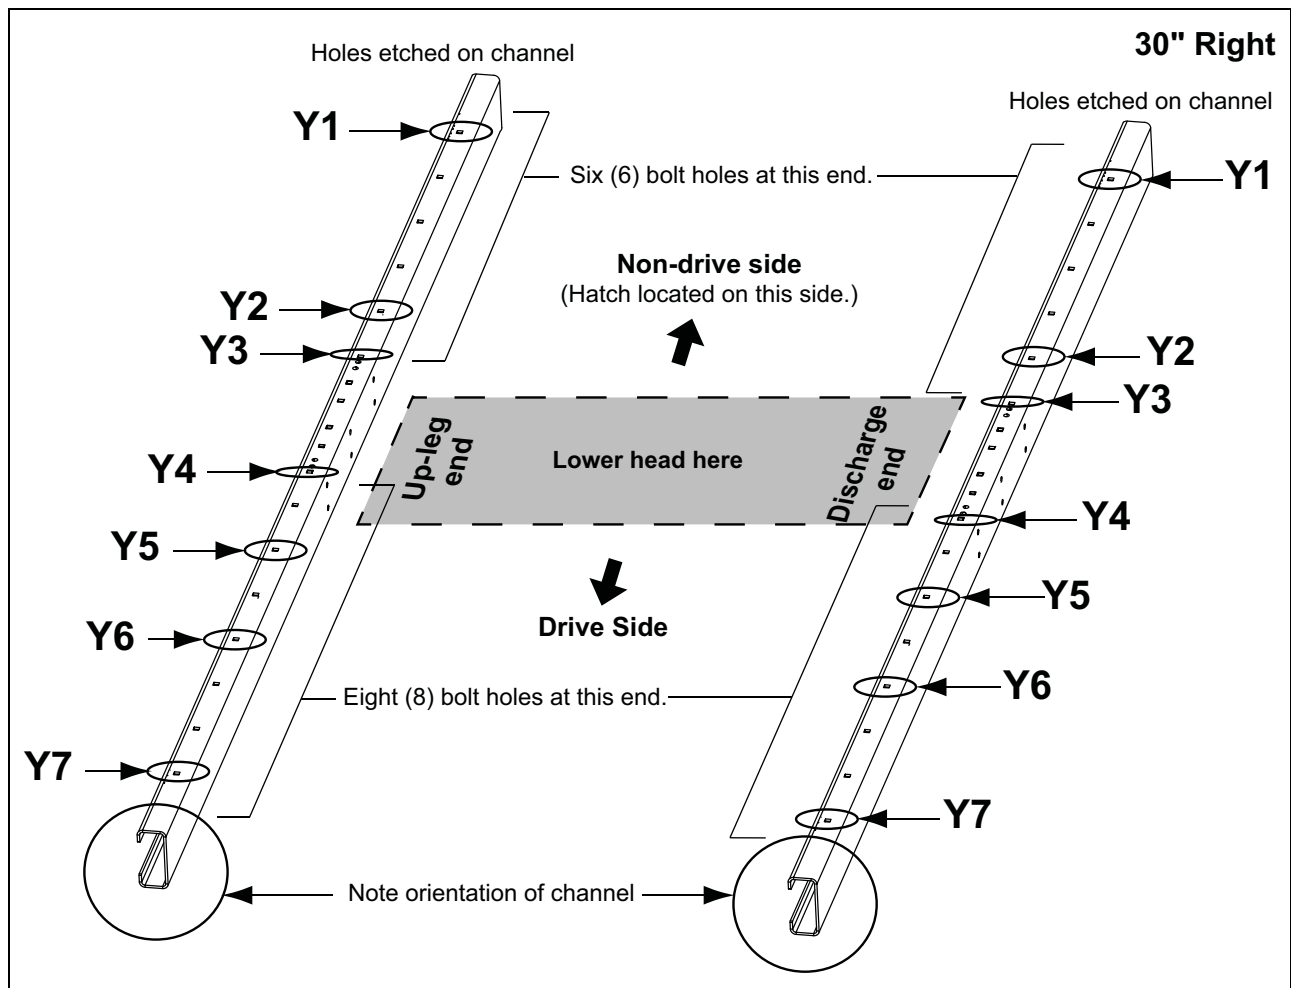
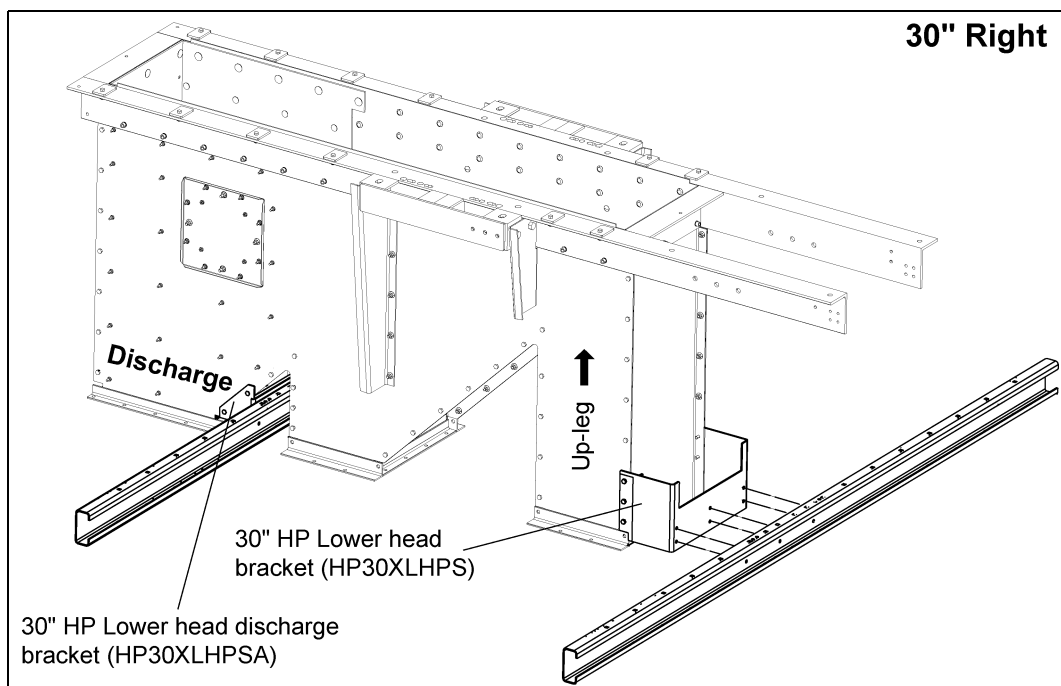

Figure 8B 30" Right Side Drive Channel Position
Figure 8C 30" Right Drive - Cross Deck Support Channels to Lower Head Brackets
(See Figure 8C on Page 51.)
3. Attach cross deck support channels (HP36CDSCX) to the top-most set of holes of the lower head brackets (HSP36130) using 3/8" x 1" bolts and nuts and properly. (See Figure 8C on Page 51.)
***NOTE:** *The channels MUST be oriented as shown in Figure 8B and Figure 8C on Page 51 in order for the decking and subsequent assembly to be done correctly.*